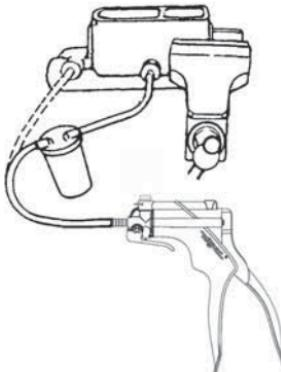

FIGURE 2: BRAKE BLEEDING
- 3) Remove a plug from the master cylinder and attach the proper adapter to this master cylinder outlet port. Connect the pump tube to the reservoir jar and the jar tube to the adapter (FIGURE 2).